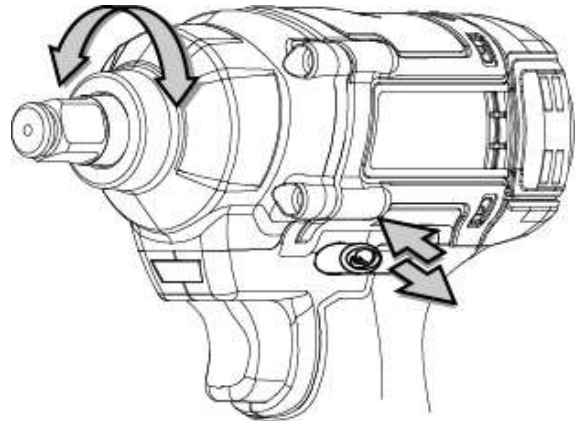

Fig.7
4. For reversing the machine, (See Fig.7) use the forward / reverse rod on the drive unit. The directions of the rotation are also shown on the face of the bar.